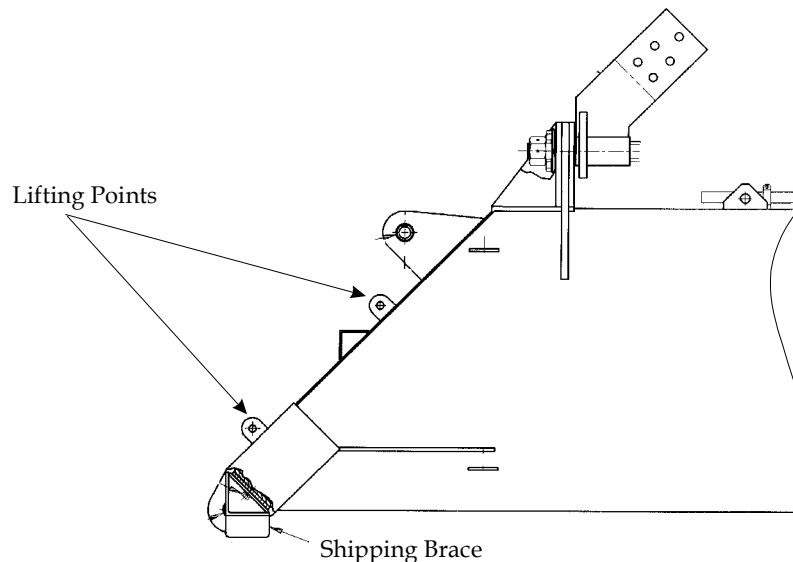

Figure 2-3 Rigging Lifting Points
10. Figure 2-3) using two shackles.